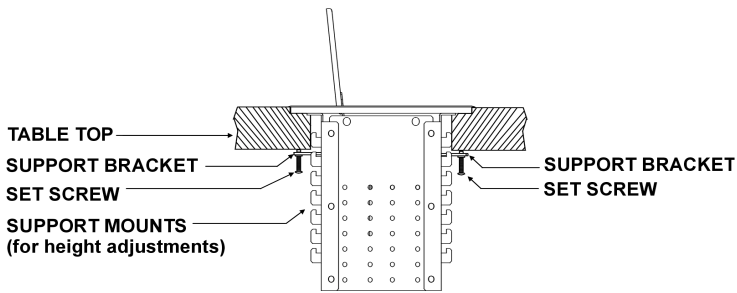

Figure 1: Attachment of the CNK unit to the table using support brackets and set screws.
Step 3. Place the support mount brackets under the table and place them between the support mount grooves on the side of the **CNK** unit. Attach the brackets to the groove at the desired height and secure them to the bottom of the table using the 6-32 screw. There are two support brackets, one for each side of the unit. (See figure 1). The **CNK** unit remains flush or at exactly the same level as the tabletop when not in use.